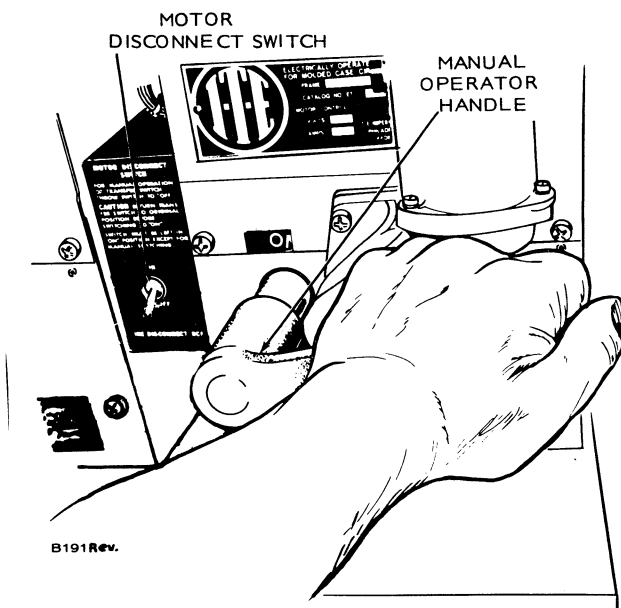

FIGURE 17. MANUAL OPERATION OF TRANSFER SWITCH
1. Turn motor disconnect switch in the cabinet to off. See Figure 17.